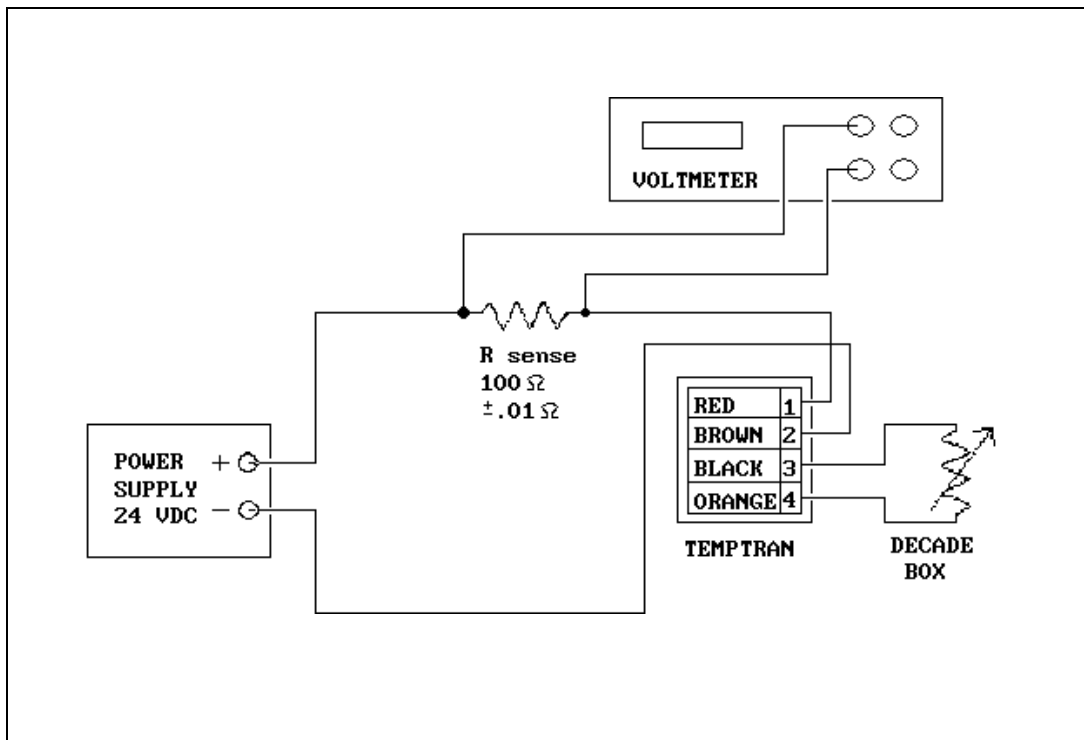

Figure 3 Calibration
1. Connect as shown in Fig. 3.